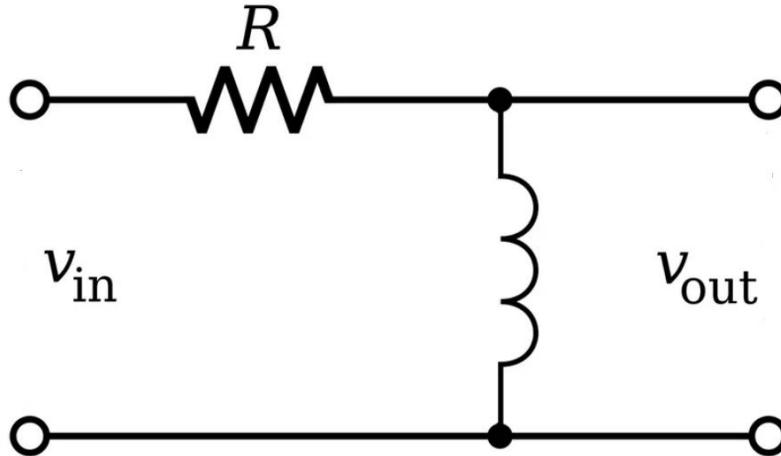

Figure. 2. High Pass Filter (HPF)
Students were required to Construct the circuit of Figure.2. Given the values of resistor (R) and Inductor (L), students were asked to vary the input frequency from 200 Hz to 100 KHz as shown in Table.1 and measure the  $v_{out}$  while maintaining the  $v_{in}$  at 2 VPP for each value of frequency. Consequently, students will Compute the voltage gain  $A_V$  for each frequency and Compute the dB loss for each frequency indicated in Table.2.